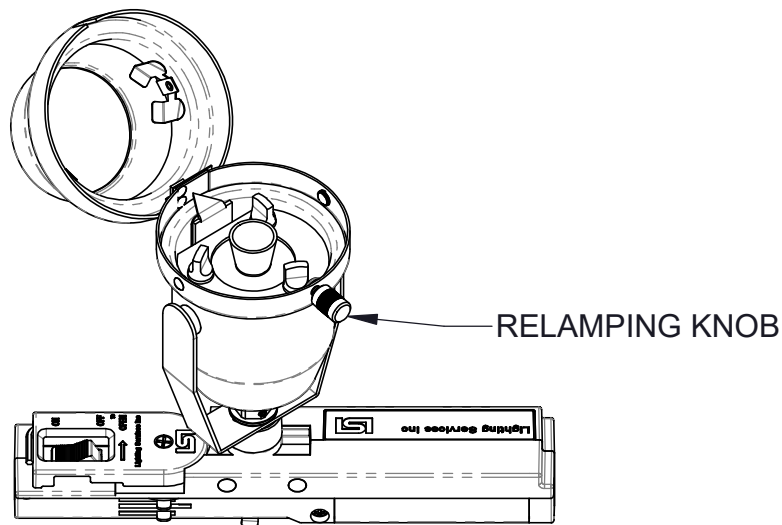

FIGURE 12. FIXTURE OPENED
2. OPEN THE FIXTURE VIA THE RELAMPING KNOB (FIG. 12).